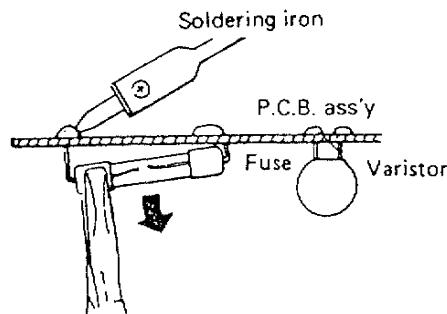

Fig. 12
2. Pull out the fuse at the metal clasp by a pair of pliers while heating the soldered leads on the back side of the P.C.B. ass'y with a soldering iron (30W or 60W), Fig. 12